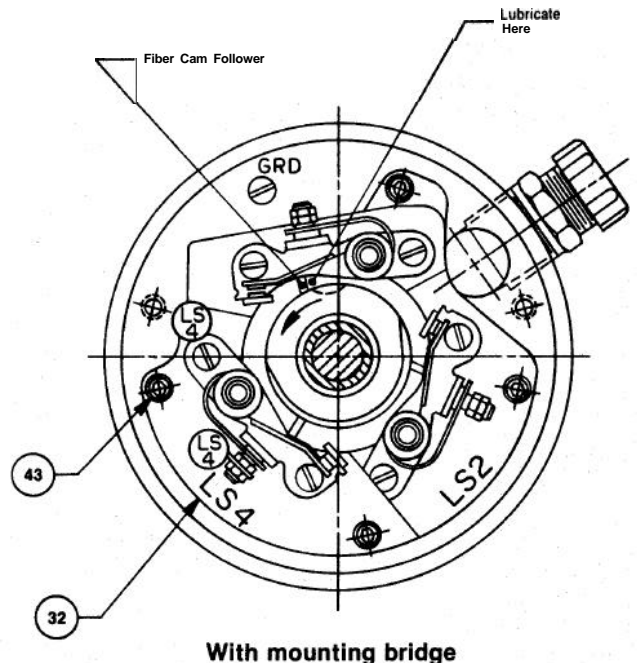

**Figure 5**
- c) Remove end cap (31) from timer by removing the two socket head cap screws.
- d) Mark the location of the fiber follower of the LS4 (42) breaker point with respect to the cam No. 5 (33A). This will prevent the need for several timer adjustments to locate the top stop position. See Figure 5.